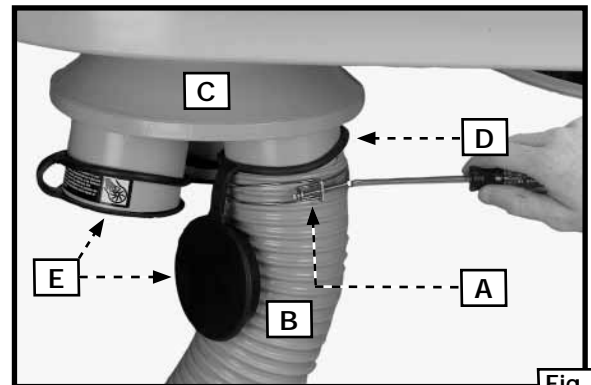

Fig. 14
NOTE: Place the intake cap rings (D) Fig. 14 on the ends of each dust intake port before attaching the hose.
Loosely place a hose clamp (A) Fig. 14 around one end of the flexible hose (B). Attach the hose to the dust intake port (C). Tighten the hose clamp (A). Attach the remaining clamp to the other end of the flexible hose and to the woodworking machine.
NOTE: Do not operate the dust collector with any of the holes in dust intake port (C) Fig. 14 uncovered. To cover a hole not being used by a hose, place the flat intake cap (E) on dust intake port as shown in Fig. 14.